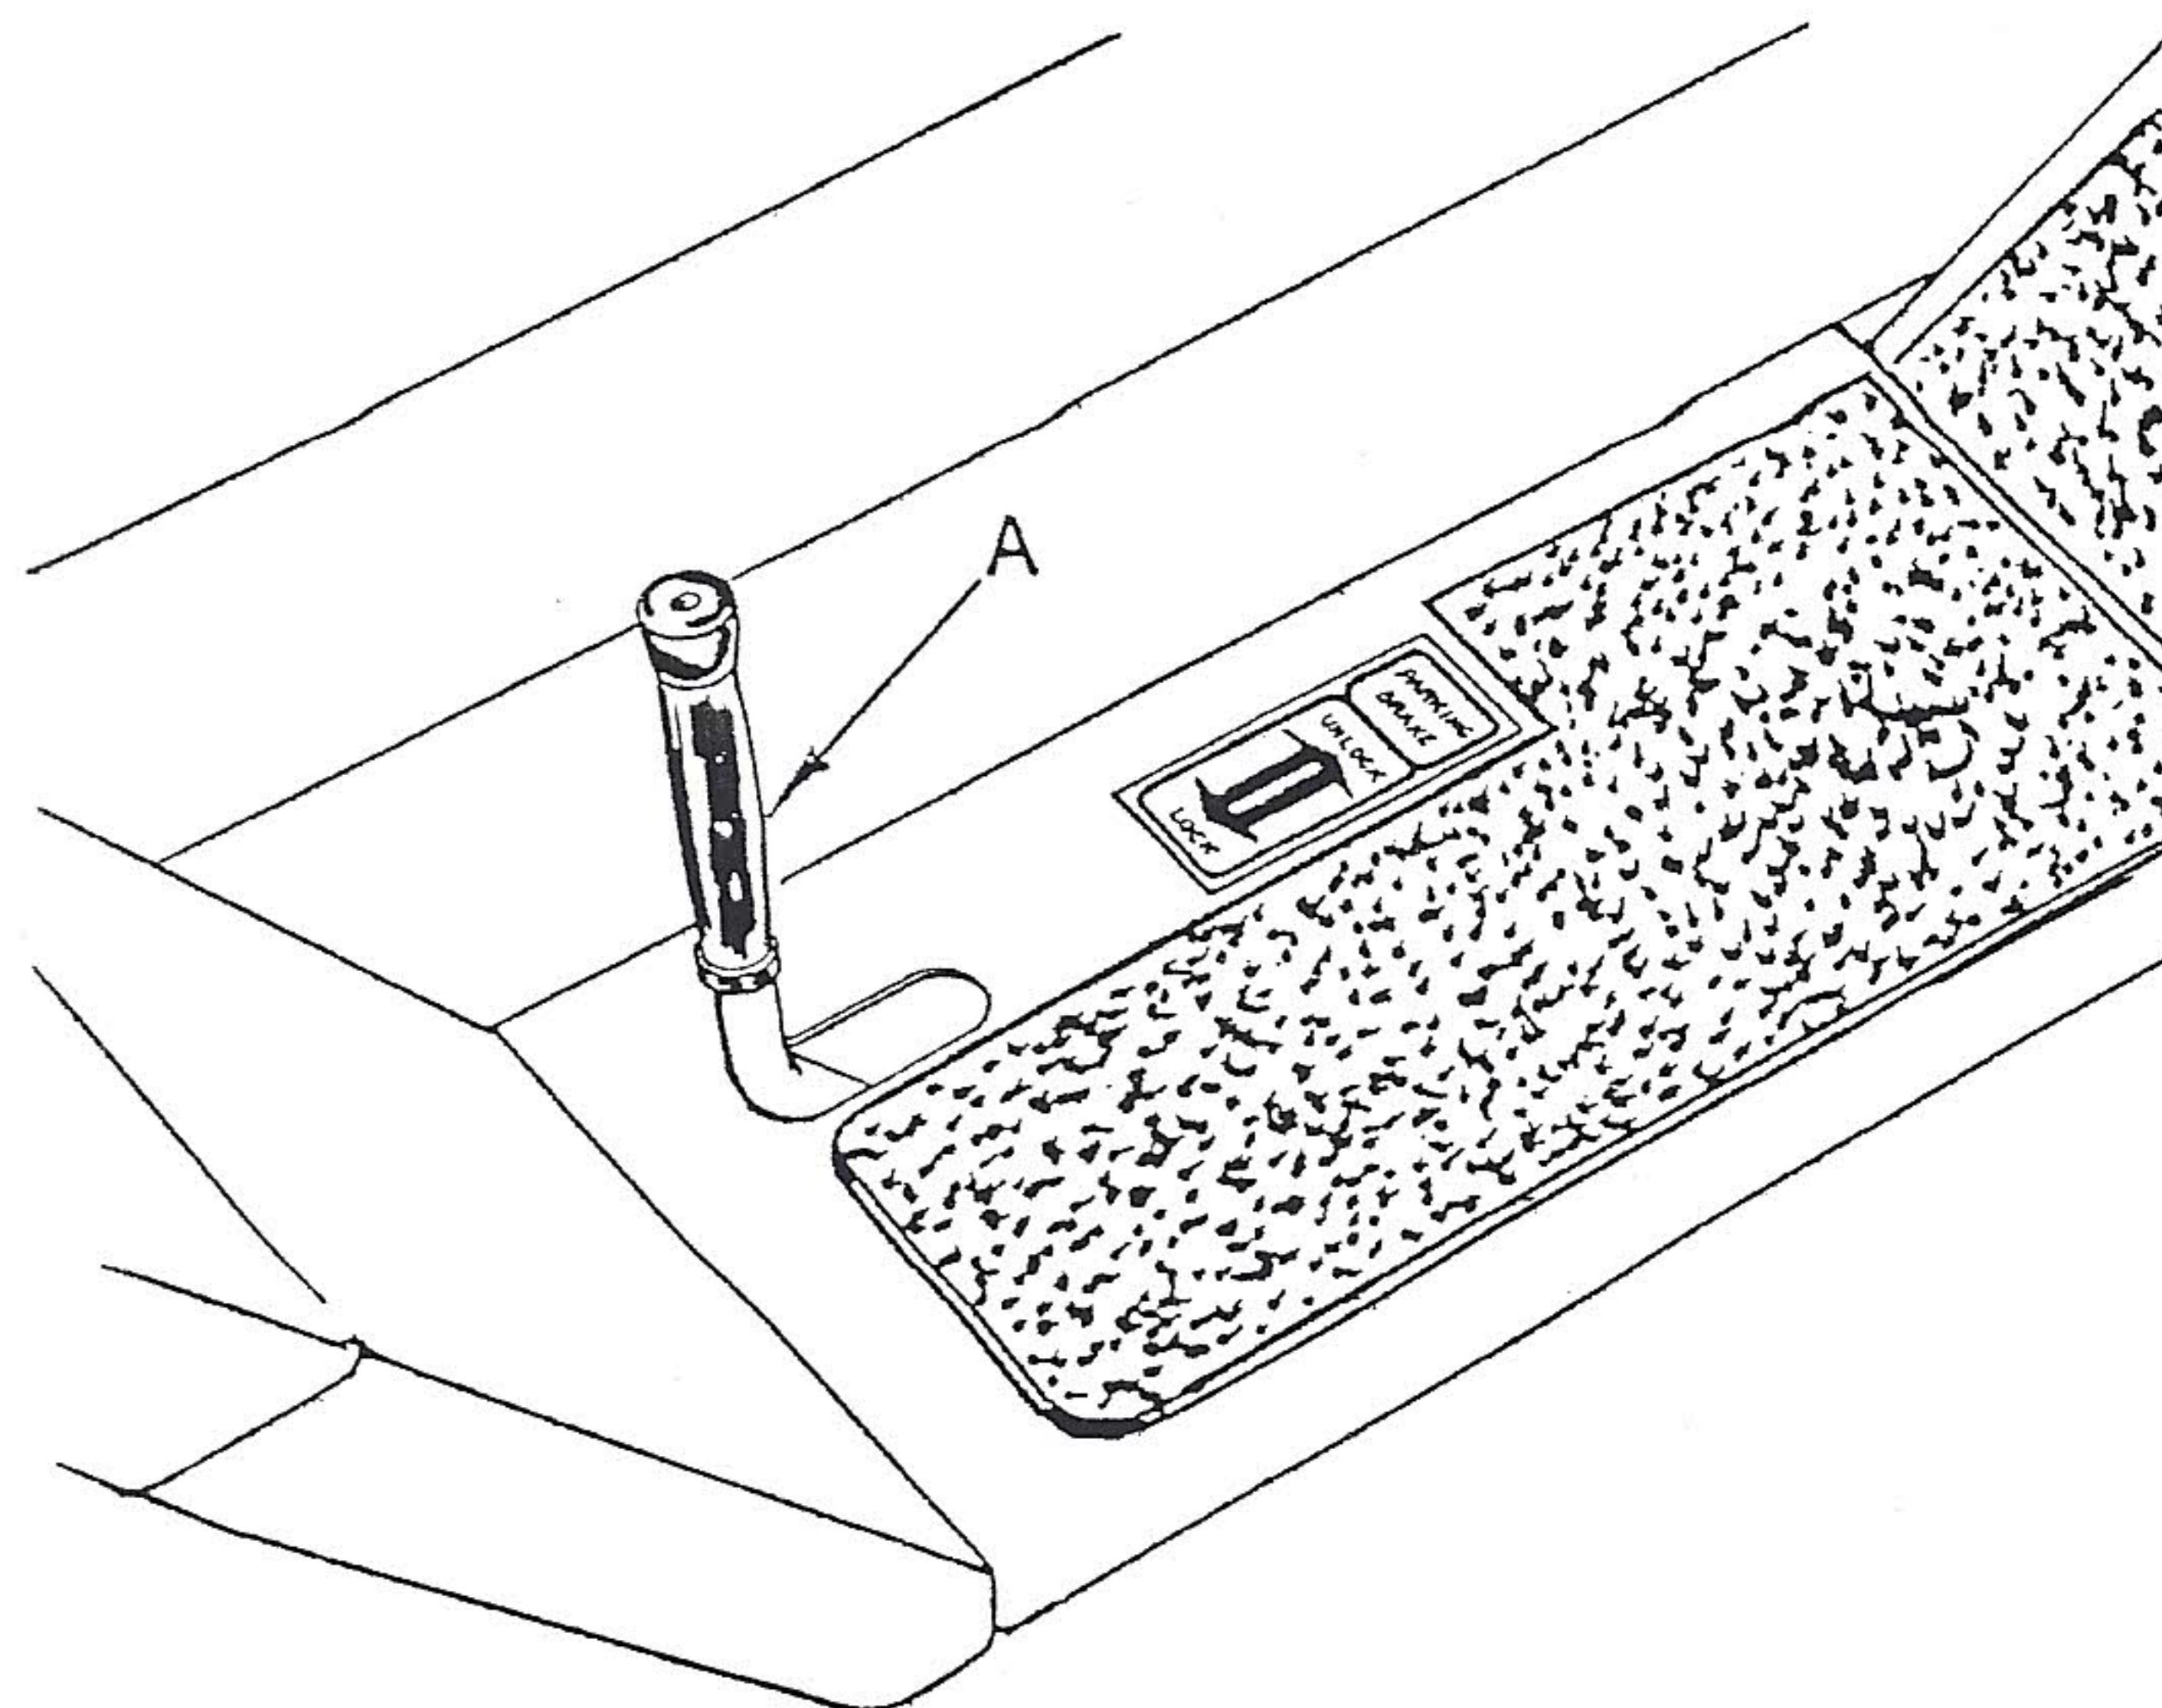

FIG. 20
- Be sure parking brake (A, Fig. 20) is in the "unlock" position.